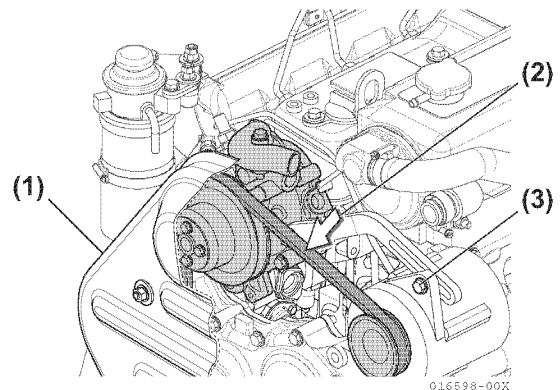

Figure 7-36
- Remove belt cover (**Figure 7-36, (1)**).
4. Loosen adjusting bolt (**Figure 7-36, (3)**) to remove coolant pump belt.